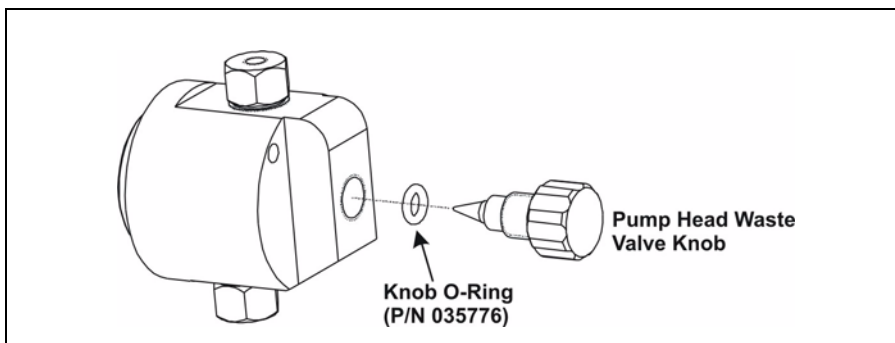

Figure 5-9. Pump Head Assembly
4. Remove the valve from the pump head housing by turning the knob counterclockwise until it comes loose from the housing (see Figure 5-9).